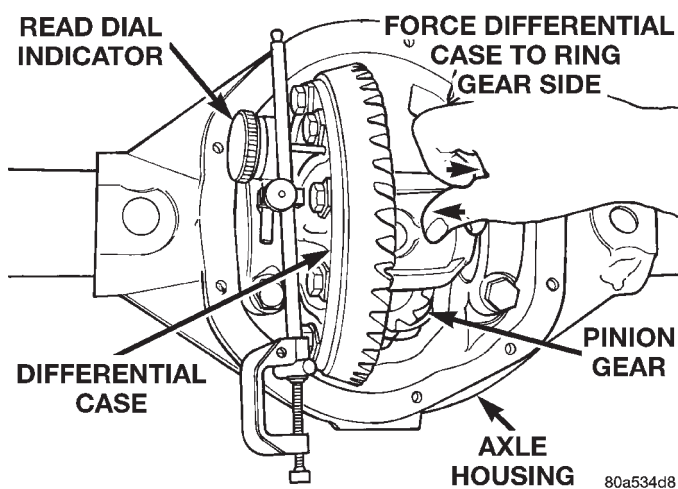

Fig. 58 Hold Differential Case and Read Dial Indicator
(23) Push and hold differential case to ring gear side of the axle housing (Fig. 58).
(24) Record dial indicator reading (Fig. 58).
(25) Subtract 0.002 in. (0.05 mm) from the dial indicator reading to compensate for backlash between ring and pinion gears. This total is the thickness shim required to achieve proper backlash.
(26) Subtract the backlash shim thickness from the total preload shim thickness. The remainder is